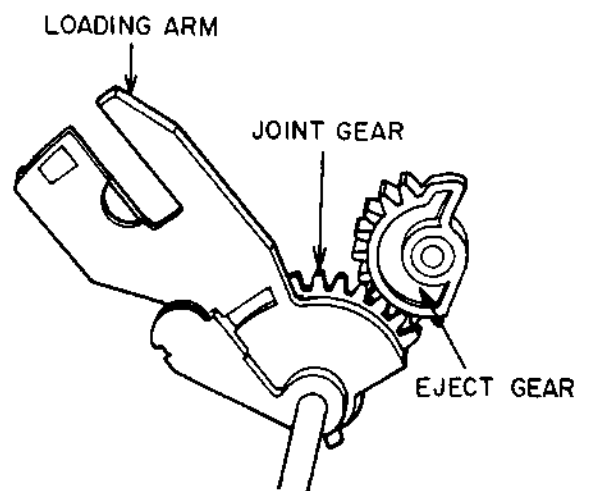

Fig. 4-3
- 2) Hold the LOADING ARM (T) and turn it 30 degrees clockwise, then pull out the shaft's left end from the bracket. To avoid damaging the JOINT GEAR and EJECT GEAR, take special care when removing. (Refer Fig.4-3)